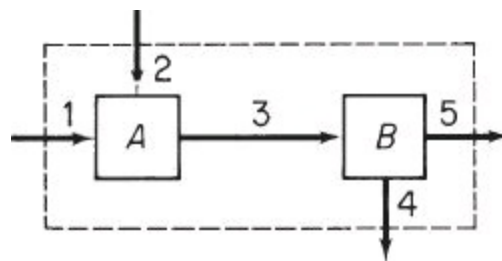

Figure P6.1.1
***6.1.1.** For Figure P6.1.1, how many independent equations are obtained from the overall balance around the entire system plus the overall balances on units *A* and *B*? Assume that only one component exists in each stream.